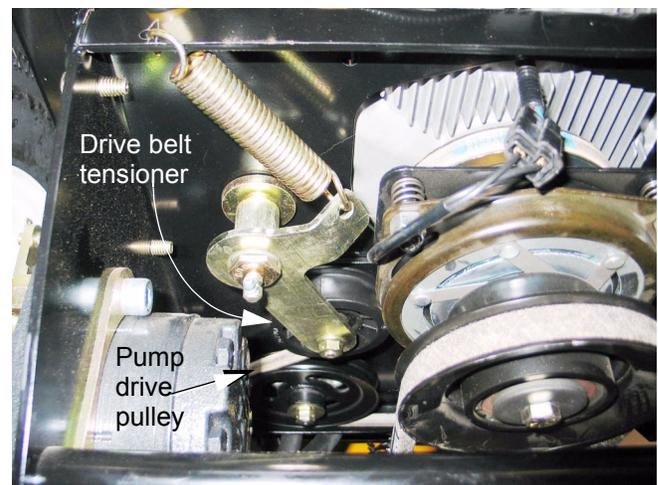

Figure 25.3
25.3. After the engine cools sufficiently to safely work near the muffler, relieve tension from the drive belt and slip the belt off of the pulley driving the pump to be removed. See Figure 25.3.